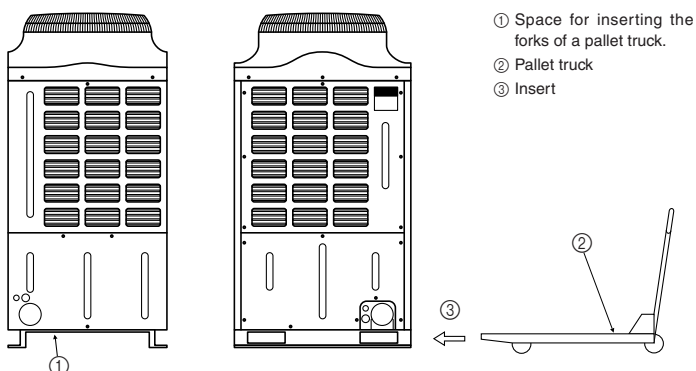

Fig. 3-2
3.2. Transporting by pallet truck (Fig. 3-2)